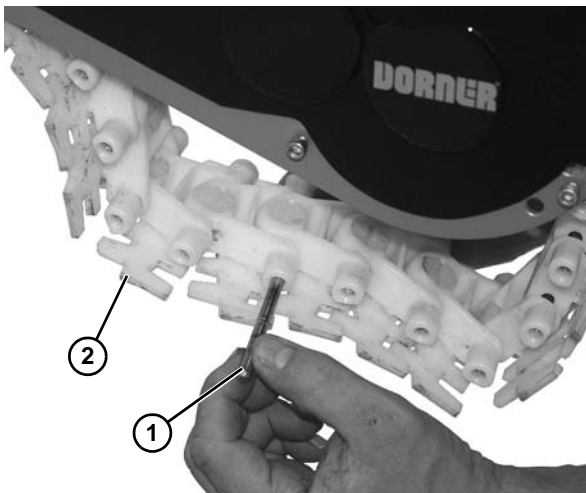

Figure 166
1. Use a punch and hammer or belt removal tool #203480 to push the belt rod (**Figure 166, item 1**) out by striking the rod end.
2. Slide the old belt (**Figure 166, item 2**) off the conveyor frame.